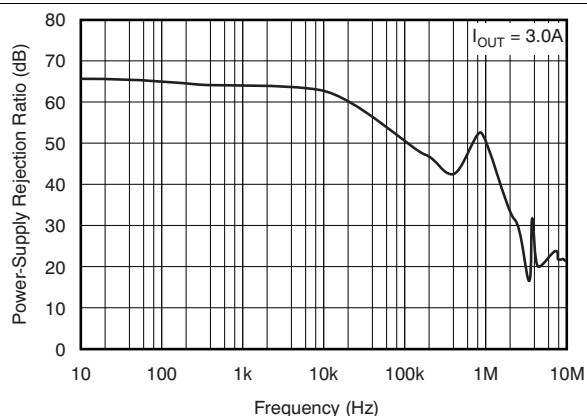
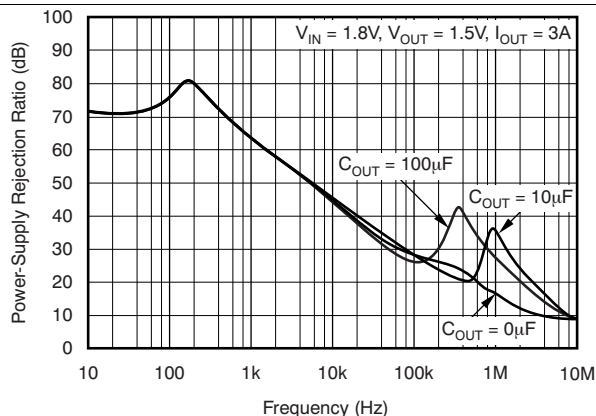

Figure 8. V_{BIAS} PSRR vs Frequency
Figure 11. V_{IN} PSRR vs Frequency
- (1) Adjustable devices tested at 0.8 V; external resistor tolerance is not taken into account.
- (2) Dropout is defined as the voltage from the input to V_{OUT} when V_{OUT} is 2% below nominal.
- (3) I_{FB} , I_{SNS} current flow is out of the device.
- (4) See Figure 8 to Figure 11 for PSRR at different conditions.